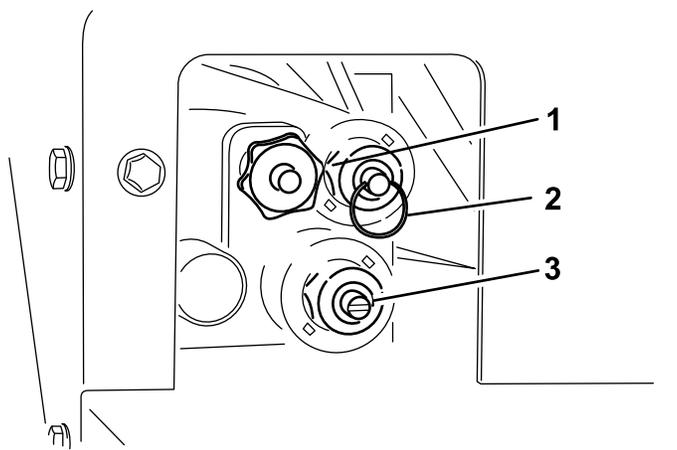

Figure 26
The override access is on the driver side of the hydraulic system (Figure 26).
- To adjust the floor speed (Figure 26), turn the knob clockwise. Maximum floor speed is used in the Color-Coded Operating System so this adjustment can be made while no hydraulic flow is present. This is most relevant when you have a hopper full of sand.
- To raise the hopper (Figure 26), push in on the ring on the valve stem.
- To lower the hopper (Figure 26), pull out on the ring on the valve stem.
- To adjust the spinner speed (Figure 26), use a flat-head screwdriver to increase by turning clockwise or decrease by turning counter clockwise.